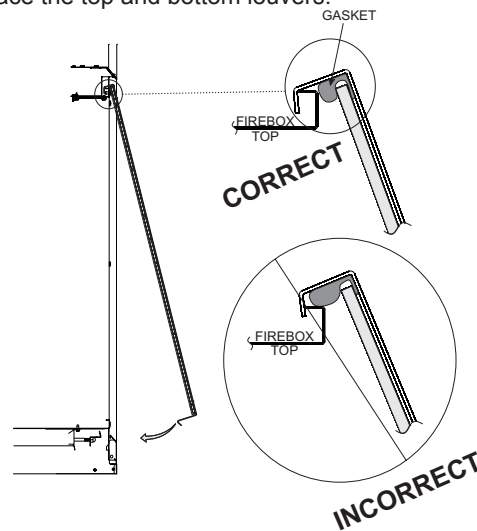

Figure 66
1. When installing the Glass Door assembly, make sure that the door top flange is hooked over the firebox top flange as illustrated in the "Correct" view in **Figure 66**.
**Important: Do not allow the gasket across the top of the door to roll up on top of the firebox flange as shown in "Incorrect" view in Figure 66.**
- Check all latches or other door retention components for proper operation, tension, and relief mechanisms are free from obstructions. **See Figure 66.**
- Check the barrier screen for fit and structural integrity. **See Figure 66.**